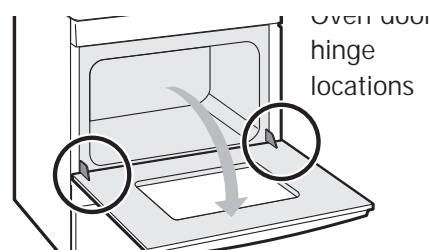

Figure 24: Door hinge location
1. Open oven door completely, horizontal with floor (See Figure 24).
3. Fully open the oven door, horizontal with floor (See Figure 24).